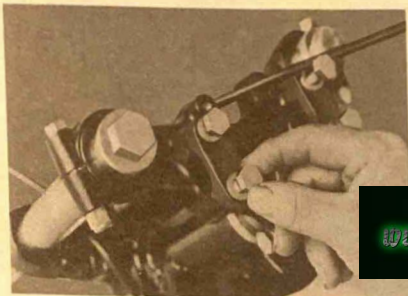

Fig. 25
10. Remove the handlebar holder hex head securing bolts and lock washers, then remove the holders. (Fig. 25)